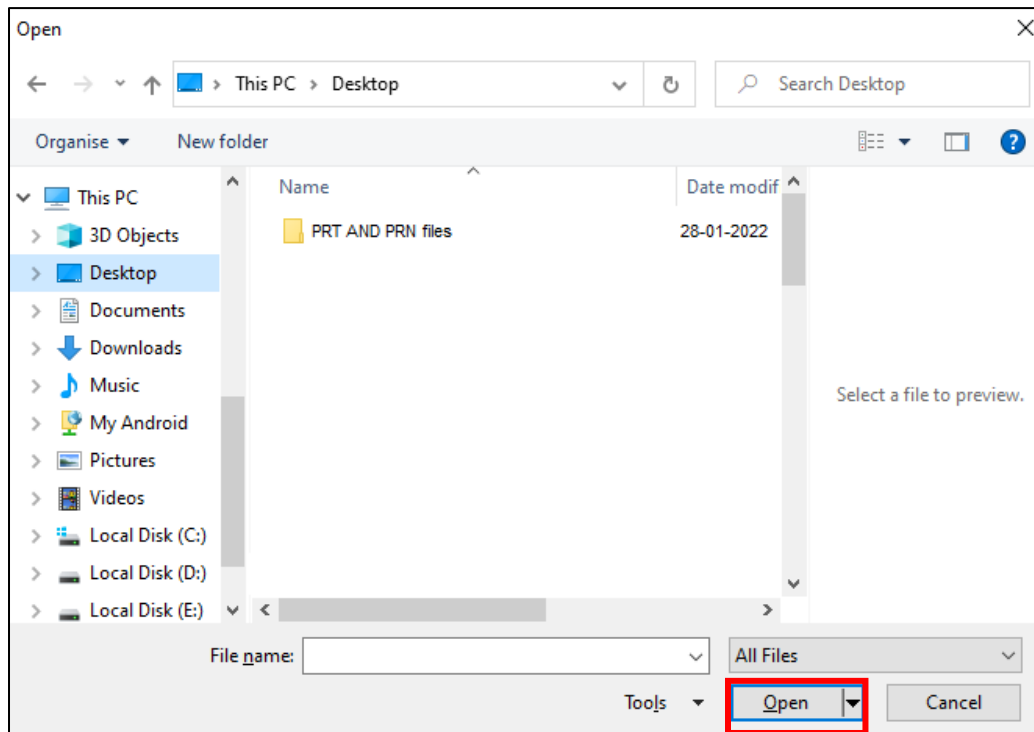

Fig 52: Adding the Job
Step 2: Navigate to the location where the image file with extension **".prt"** and **".prn"** is stored (Refer to Fig 52).